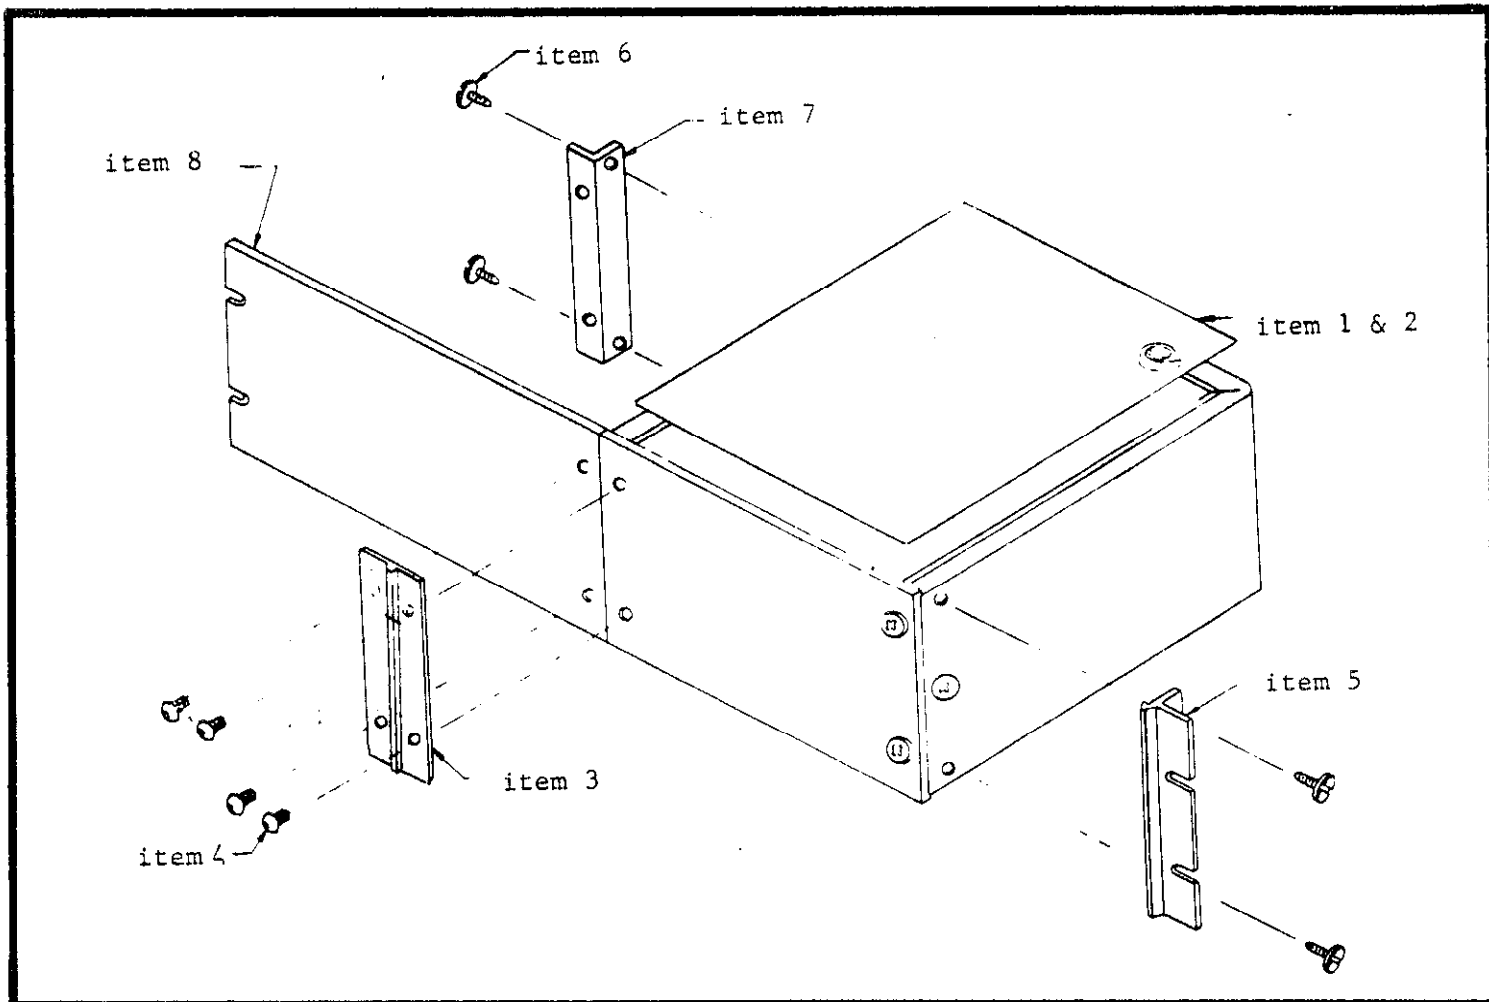

FIGURE 19. Exploded View of Keithley Model 4006 Rack Mounting Kit. Refer to Table 13 for parts list.
b. Procedures. Remove the wrap-around cover on the Model 150B by removing the two corner screws at the bottom of each side. Add the rack mounting parts as shown in Figure 19. Attach in this order: cover (2), rack angle (5), panel support angle (7), rack panel adapter (8), and chassis connecting plate (3).